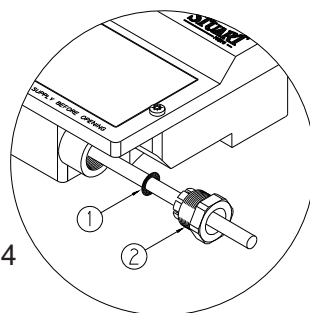

Fig. 14
To enable correct assembly of the cable gland, the 'O'-ring (Fig. 14, item 1) must be placed over the cable before the clamping insert (Fig. 14, item 2) can be tightened.